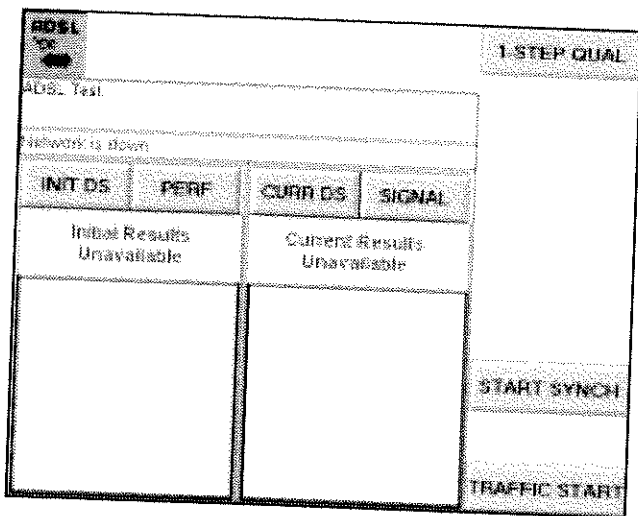

Figure 1-5. ADSL Test Application Start-up Screen
2. The ADSL test set contains only one test application screen. The ADSL Icon in the upper left-hand corner of the screen ensures the configurations of the test instrument is ready for ADSL test mode. Figure 1-5 shows the ADSL Test Application Start-Up Screen.